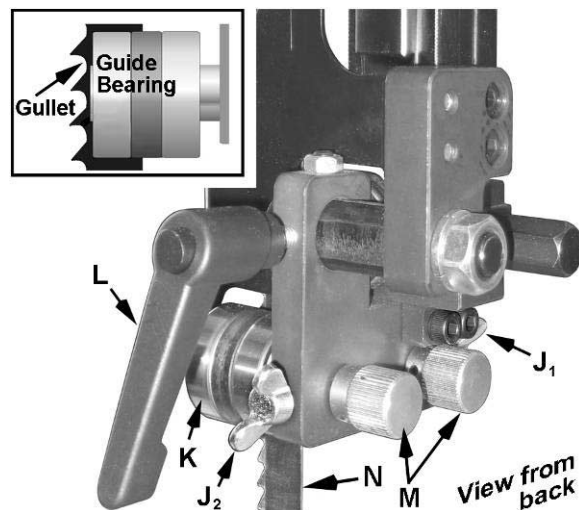

Figure 22
To adjust the guide bearings (refer to Figure 22):
4. Loosen the *locking handle* (L) and slide the assembly until the front of the *guide bearings* rest just behind the *gullet* of the blade teeth (see inset).
5. Loosen two *wing nuts* (J₁, J₂). Rotate the *adjustment handles* (M) until the *guide bearings* (K) rest lightly against the *blade* (N). *Do not force* the guide bearings against the side of the blade.
6. Tighten *wing nuts* (J₁, J₂ Fig. 22).